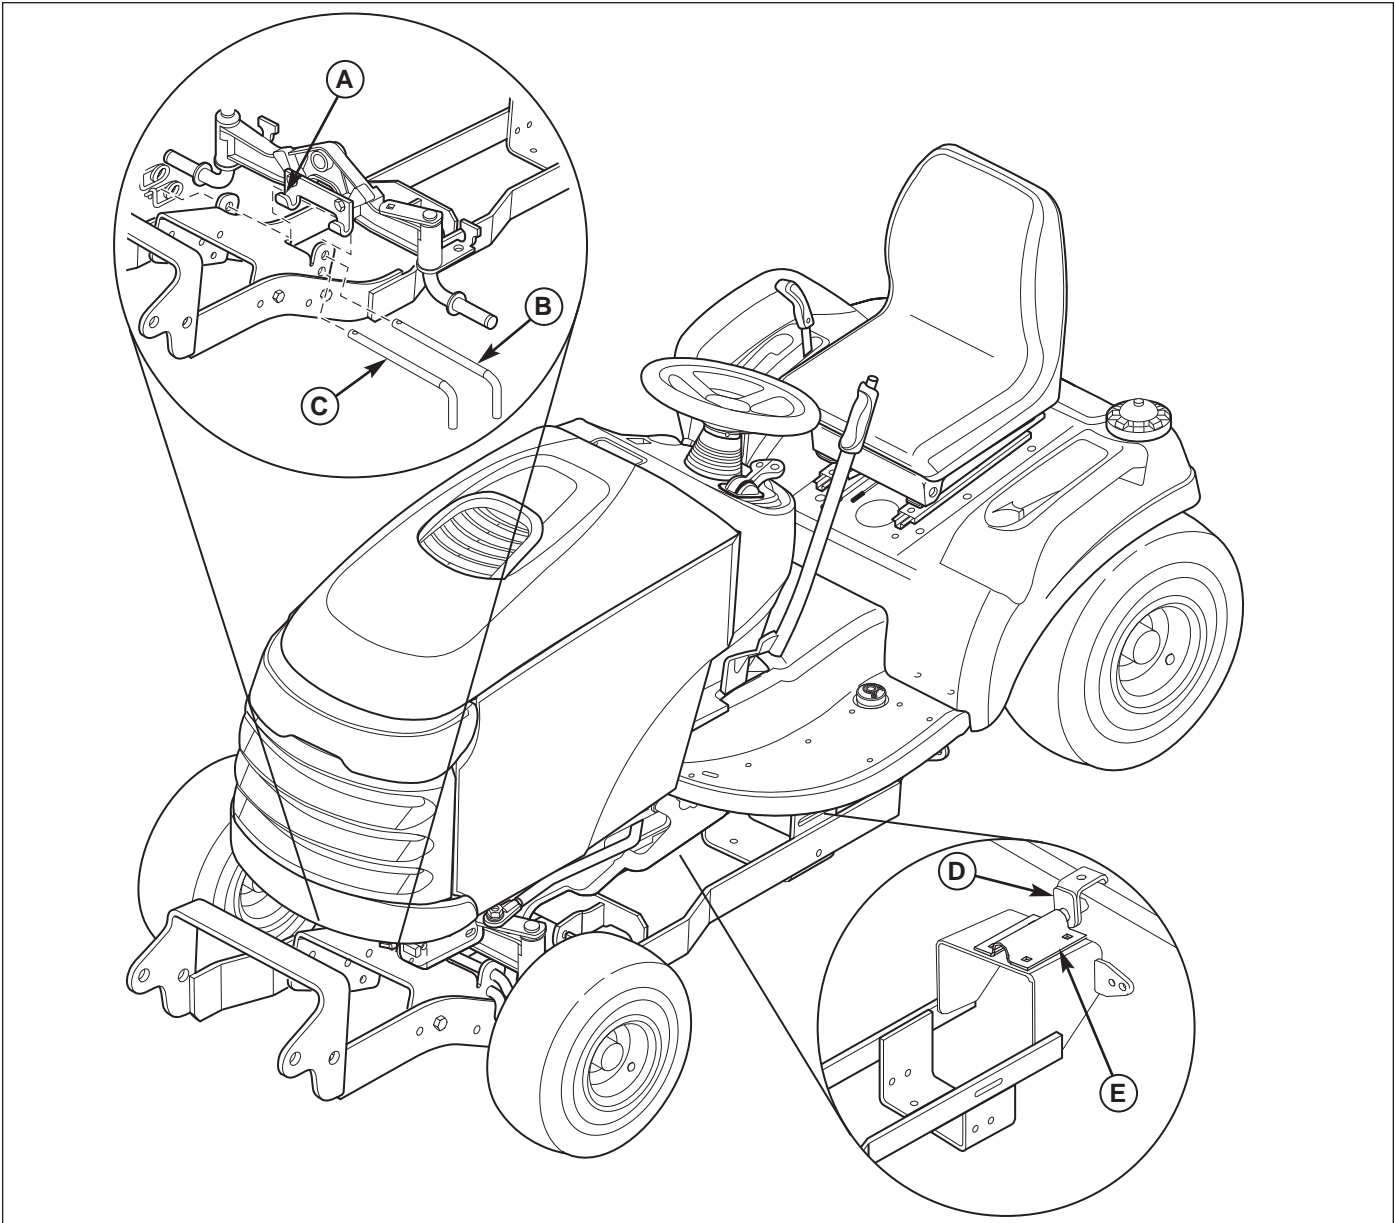
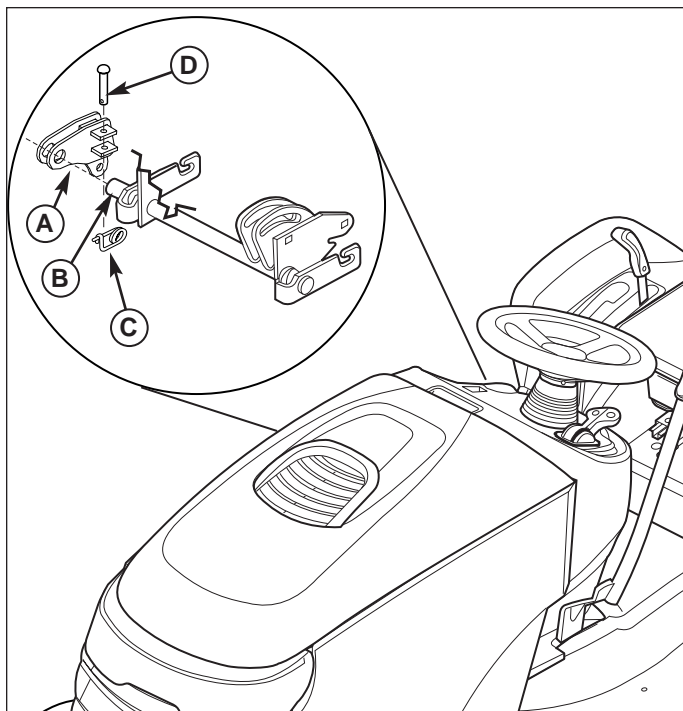
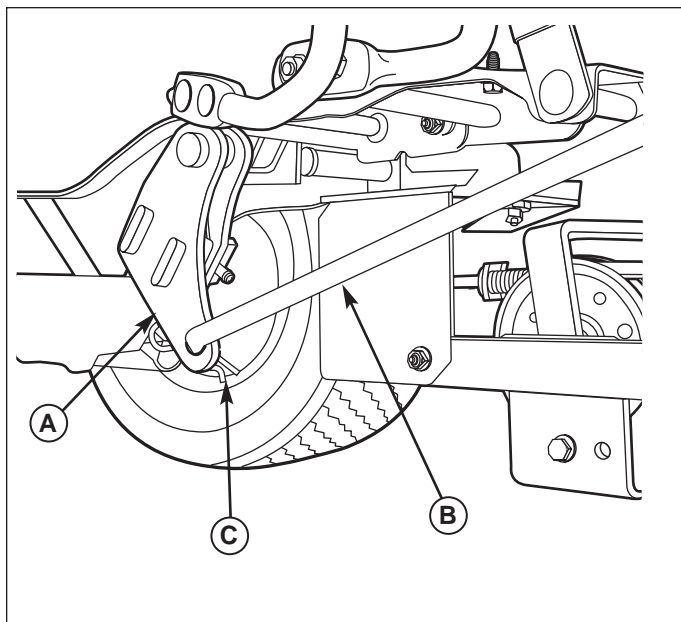

Figure 8. Install Hitch
Figure 9. Install Lift Lever
Figure 10. Install Lift Rod - All Models
2. Raise the rear of the hitch and place the hook (C) over the lift shaft.
3. Connect the front of the hitch to the tractor J-hooks (A, Figure 8) using the hitch rod (B) and a safety clip in the top holes of the push bar latch.
4. Secure the front of the hitch to the tractor by attaching the hitch rod (C) and a safety clip in the bottom holes of the push bar latch.
5. Push the clamp plate (D) backwards until it is snug against the lift shaft. Tighten the clamp plate hardware (E).
1. Slide the lift lever (A, Figure 9) onto the end of the tractor lift shaft (B) under the right side footrest.
2. Use the tabs on the lift lever (A) to capture the tractor lift arm. Secure in place with a clevis pin (D) and safety clip (C).
3. Insert the rear of the lift rod (B, Figure 10) into the bottom of the lift lever (A). Secure with a clip (C).
2. Secure the front of the hitch to the J-hooks using the hitch rod (A) and (B) (Figure 8).
3. Install the downward pressure lock plate (E) OR place the lift link (D) in snowthrower position.
4. Install the lift lever extension (C).
5. Install the lift rod and attachment (Figure 10).